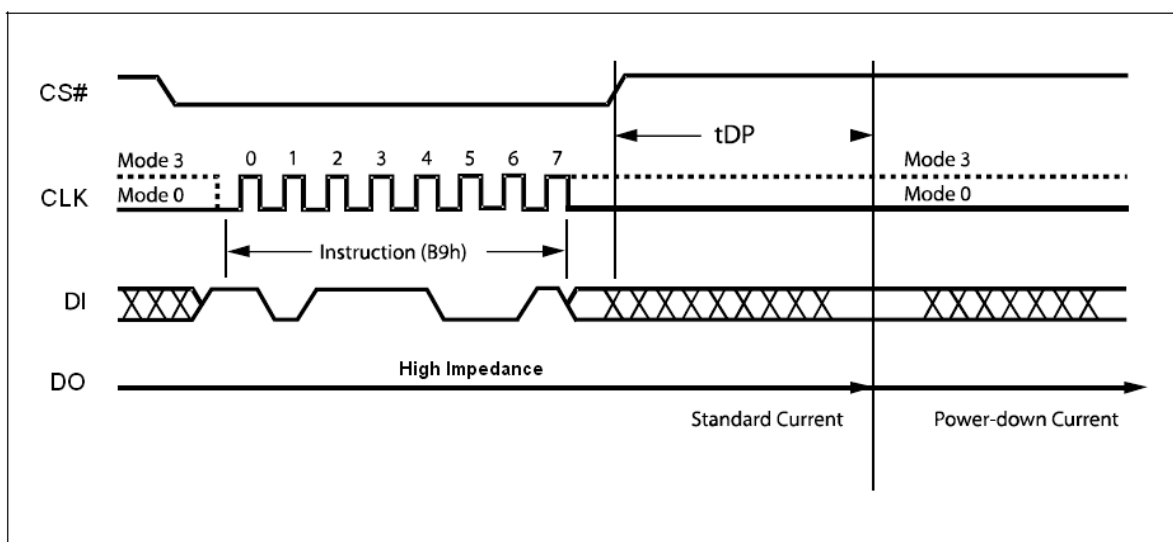

Figure 15. Deep Power-down Instruction Sequence Diagram
The instruction sequence is shown in Figure 15. Chip Select (CS#) must be driven High after the eighth bit of the instruction code has been latched in, otherwise the Deep Power-down (DP) instruction is not executed. As soon as Chip Select (CS#) is driven High, it requires a delay of t_{DP} before the supply current is reduced to ICC2 and the Deep Power-down mode is entered.